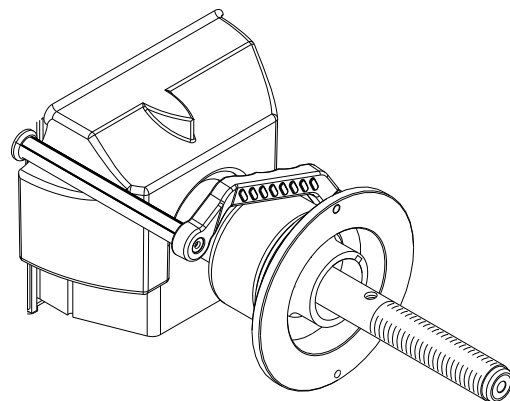

Figure 43 - Extension Resting on Bell Collar
8. Gently pull the SAPE out and rest the arm of the SAPE gauge on the inner part of the bell housing as shown in Figure 43. A tone will sound and the display will change to **"H"** **"POS"**.